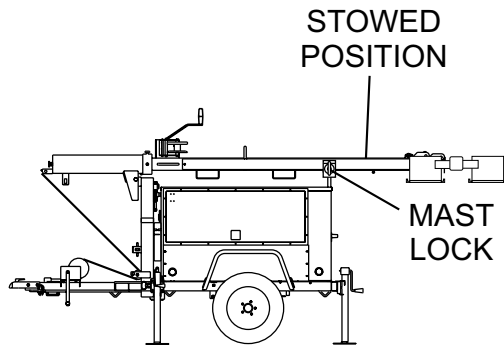

Figure 2. Light Tower in Stowed Position
2. If the light tower is in the deployed position, place the tower mast into the cradle support (stowed position). See Figure 2. Make sure cradle lock/release pin has been inserted and the mast is locked.